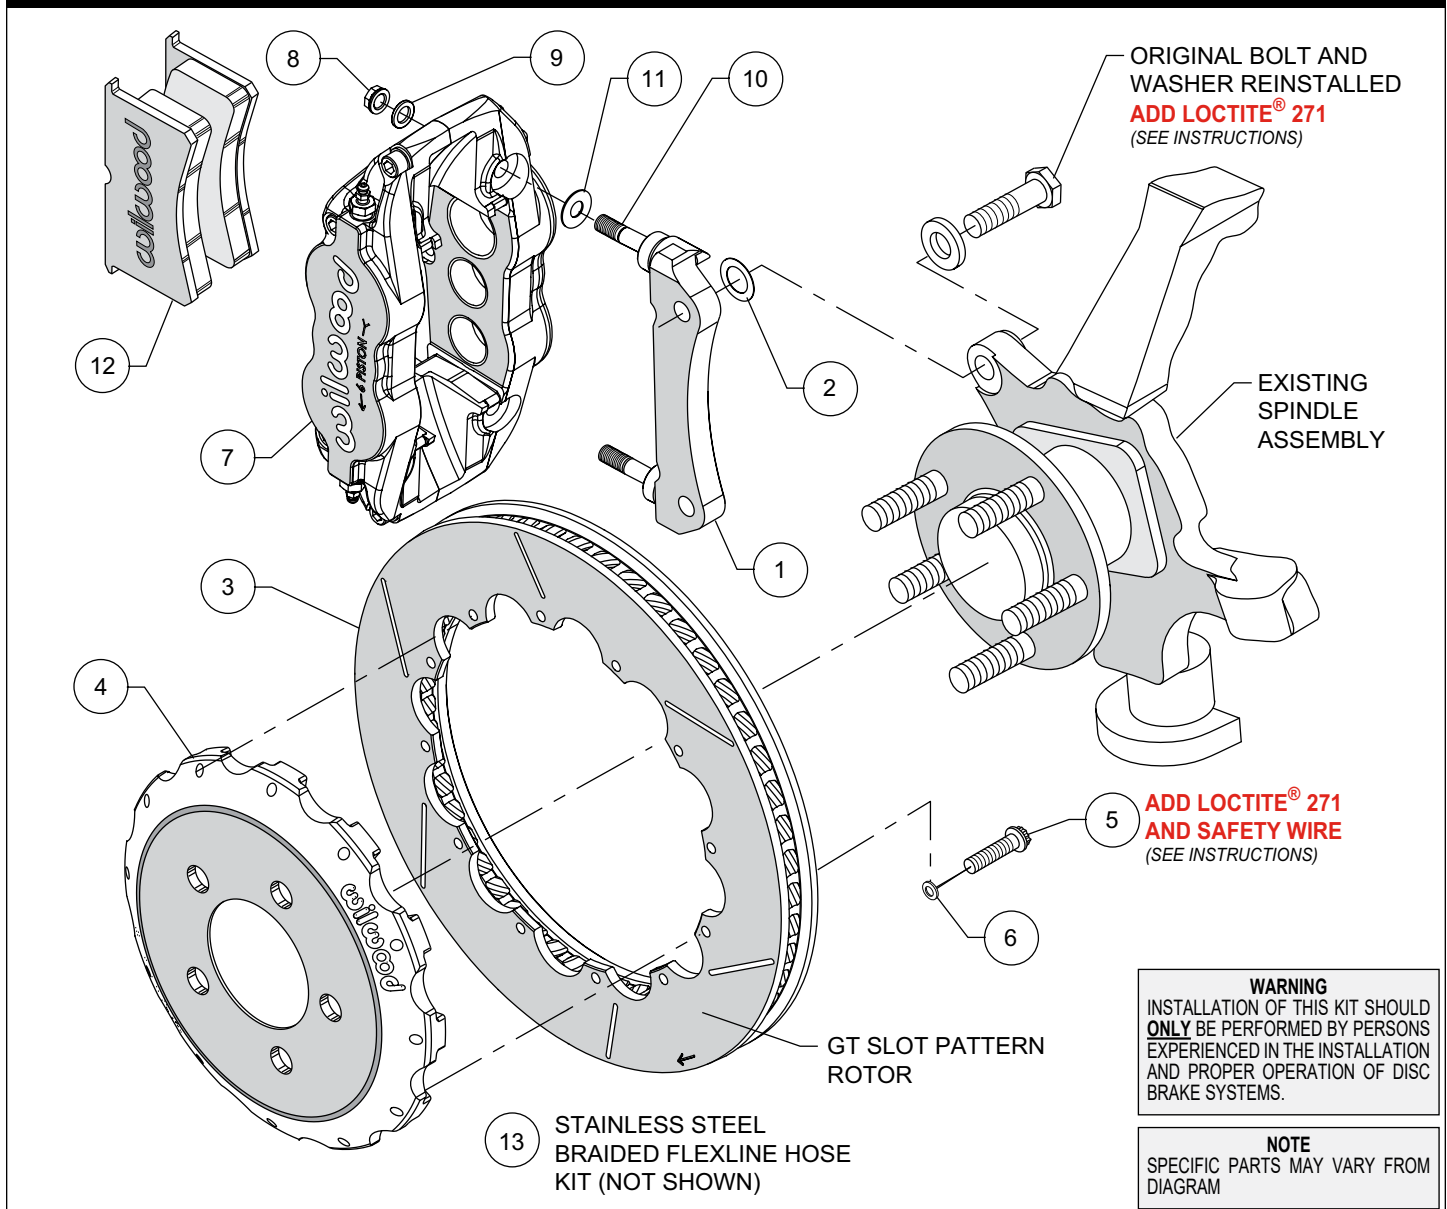
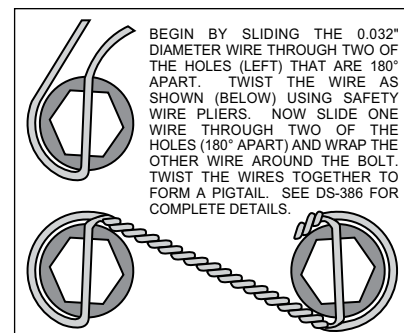

Figure 1. Typical Installation Configuration
Figure 3. Safety Wire Diagram
Assembly Instructions (numbers in parenthesis refer to the parts list and Figure 1 on the preceding pages):
- The caliper mount bracket (1) should initially be installed with clean, dry threads on the mounting bolts. Orient the bracket as shown in Figure 1, and install using saved OEM bolts and washers. Initially place one .015 thick shim (2) on each bolt between the bracket and upright, Figure 1. Temporarily tighten the mounting bolts. **NOTE: The bracket must fit squarely against the mount bosses on the upright.** Inspect for interference from casting irregularities, machining ridges, burrs, etc. Later, after the caliper alignment has been checked, the mount bolts will be secured using red *Loctite*® 271.
- Orient the rotor (3) and the hat (4) as shown in Figure 1. Attach rotor to hat using bolts (5) and washers (6). Apply red *Loctite*® 271 to the bolt threads and torque to 155 **in-lb** using a criss-cross pattern. Safety wire bolts using standard 0.032 inch diameter stainless steel safety wire as shown in Figure 3. Please refer to Wilwood's data sheet DS-386 (available at www.wilwood.com/Pdf/DataSheets/ds386.pdf) for complete safety wire installation instructions.
- NOTE: This kit contains distinct right and left hand calipers that must be mounted in a specific direction, as described below.** Initially place one .035" thick shim (11) on each stud (10) as shown in Figure 1. Mount the caliper (7) onto the bracket (1) using lock nuts (8) and washers (9), Figure 1. Ensure that the caliper is mounted so that the largest pistons are at the rotor exit end of the caliper, in relation to the direction of rotor rotation. Temporarily tighten the lock nuts and view the rotor through the top opening of the caliper. The rotor should be centered in the caliper. If not, adjust by adding or subtracting shims (2) between the bracket and the upright. Always use the same amount of shims on each of the two mounting bolts. Once the caliper alignment is correct, remove the OEM bracket mounting bolts one at a time, apply red *Loctite*® 271 to the threads, and torque to OEM specifications.
- Remove the caliper center bridge pad retainer bolt, nut, and tube from the caliper. Insert the brake pads (12) into the caliper, with the friction material facing the rotor. Check that the top of the brake pad is flush with the outside diameter of the rotor. If not, adjust by adding or subtracting shims (11) between the caliper and the bracket. After the caliper pad height is set, reinstall the center bridge pad retainer tube, bolt, and lock nut. The lock nut should be snug without play in the bolt or tube. Be cautious not to over tighten. Torque the caliper lock nuts (8) to 30 ft-lb.
- NOTE: OEM rubber brake hoses generally cannot be adapted to Wilwood calipers. The caliper inlet fitting is a 1/8-27 NPT (use PTFE tape on pipe threads of adapter fitting for proper sealing to caliper).** Install Wilwood's stainless steel braided flexline hose kit (13), P/N 220-8338 included with this kit. **Carefully route hoses to prevent contact with moving suspension, brake or wheel components.** **NOTE: Wilwood hose kits are designed for use in many different vehicle applications and it is the installer's responsibility to properly route and ensure adequate clearance and retention for brake hose components.**